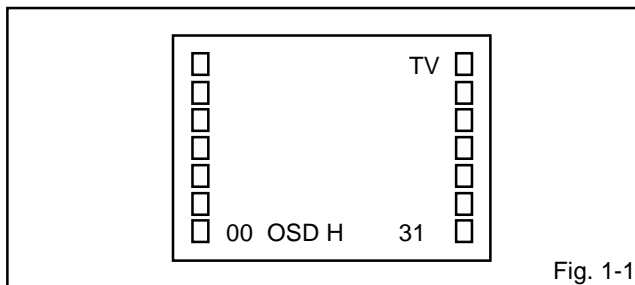

Fig. 1-1
1. In the condition of NO indication on the screen. Press the VOL. DOWN button on the set and the Channel button (**9**) on the remote control for more than 1 second to appear the adjustment mode on the screen as shown in **Fig. 1-1**.
4. Activate the adjustment mode display of **Fig. 1-1** and press the channel button (**03**) on the remote control to select "V. VCO".
4. Activate the adjustment mode display of **Fig. 1-1** and press the channel button (**02**) on the remote control to select "RF AGC".
3. Activate the adjustment mode display of **Fig. 1-1** and press the channel button (**01**) on the remote control to select "CUT OFF".
4. Activate the adjustment mode display of **Fig. 1-1** and press the channel button (**10**) on the remote control to select "R. BIAS".